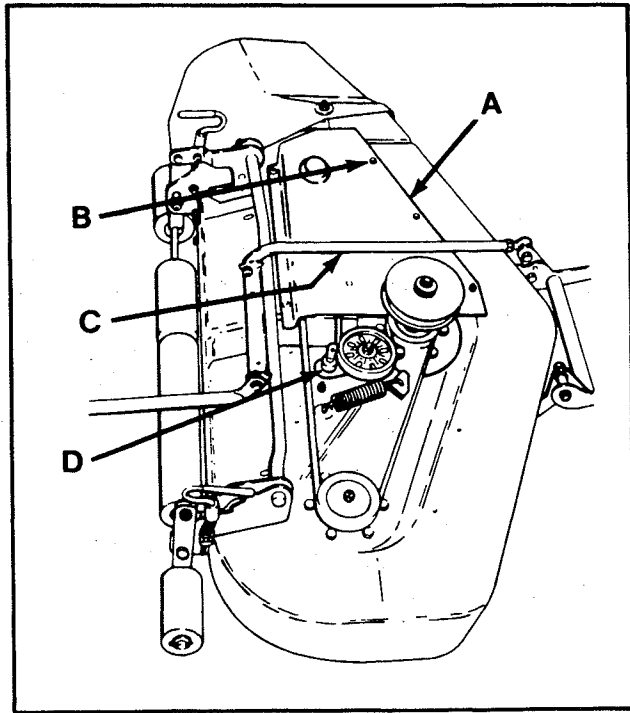

FIGURE 12 - Idler Pulley Pivot
3. Remove the tappite screws to remove the right hand cover (both covers can be removed to check/clean inside of mower deck). See Figure 12.